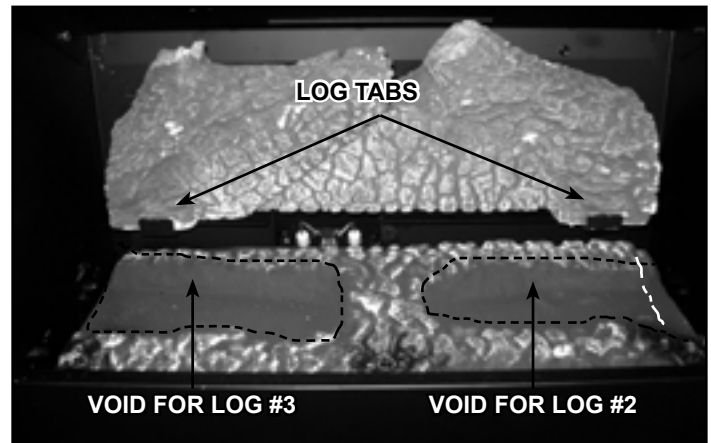

Figure 2. Placement of Log #1
**CAUTION:** Logs are fragile, handle with care. Log #1 (2342-701): Position rear log on log shelf above pilot assembly. Center log and pull base forward until it contacts the log tabs on the burner. See Figure 2.